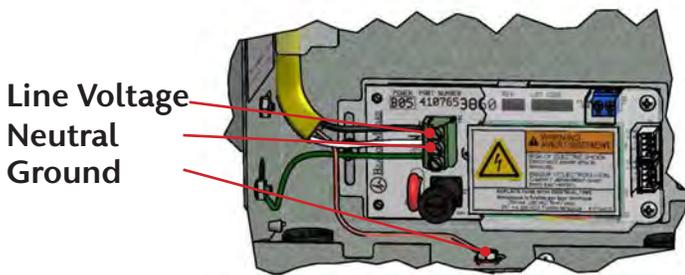

Figure 21: Supply Power Wiring
3. Connect incoming line and neutral wires to the terminal block. Ground wire connects directly to the rough-in box (chassis) at the green screw below the power supply (Figure 21).